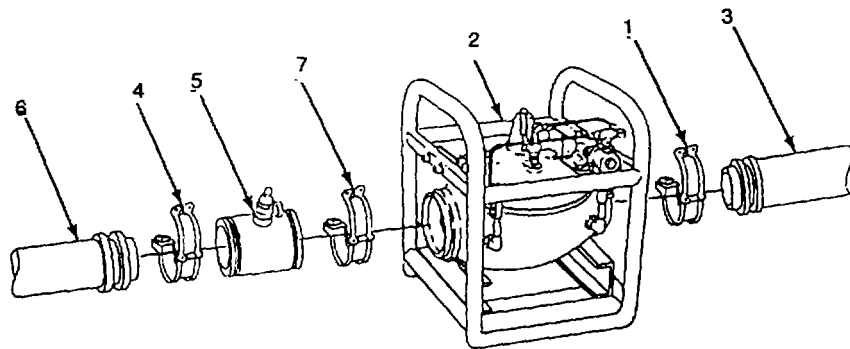

Figure 2-39. Disassemble Pressure-Reducing Valve
- (1) Remove 6-inch boltless coupling (1, Figure 2-39) (para. 2-8.c.) connecting pressure-reducing valve (2) to downline hoseline segment (3).
- (2) Install 6-inch boltless coupling (1) (para. 2-8.b.) on end of hoseline segment (3).
- (3) Remove 6-inch boltless coupling (4) (para. 2-8.c.) connecting pressure-relief valve (5) to upline hoseline segment (6).
- (4) Remove 6-inch boltless coupling (7) (para. 2-8.c.) connecting pressure-relief valve (5) to pressure-reducing valve (2).